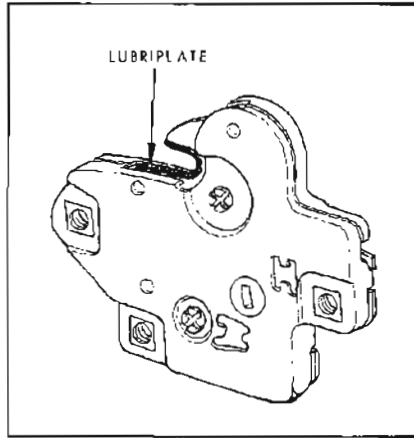

Figure 1-15—Rear Compartment Lid Lock Bolt Lubrication
6. Rear Compartment Lid Lock - Apply a thin coat of Lubriplate or equivalent to striker bolt as shown in Figure 1-15.